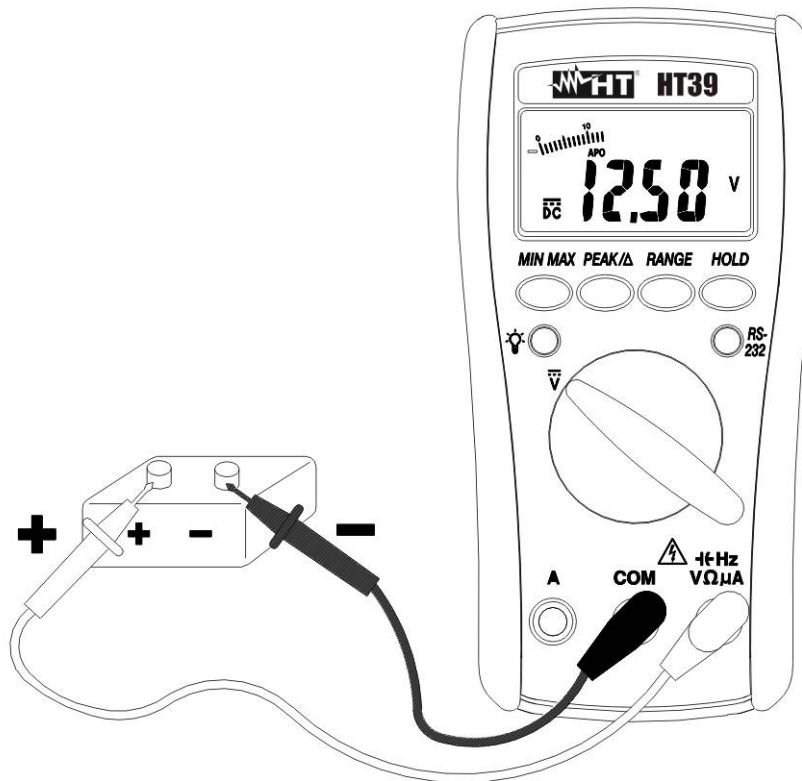

Fig. 3: DC Voltage measurement
2. Insert the test leads into the jacks, the red plug into $\text{HzV}\Omega\mu\text{A}$ jack and the black plug into **COM** jack (Fig. 3).
6. The symbol "-" on the display means that voltage has opposite direction than shown in Fig. 3.